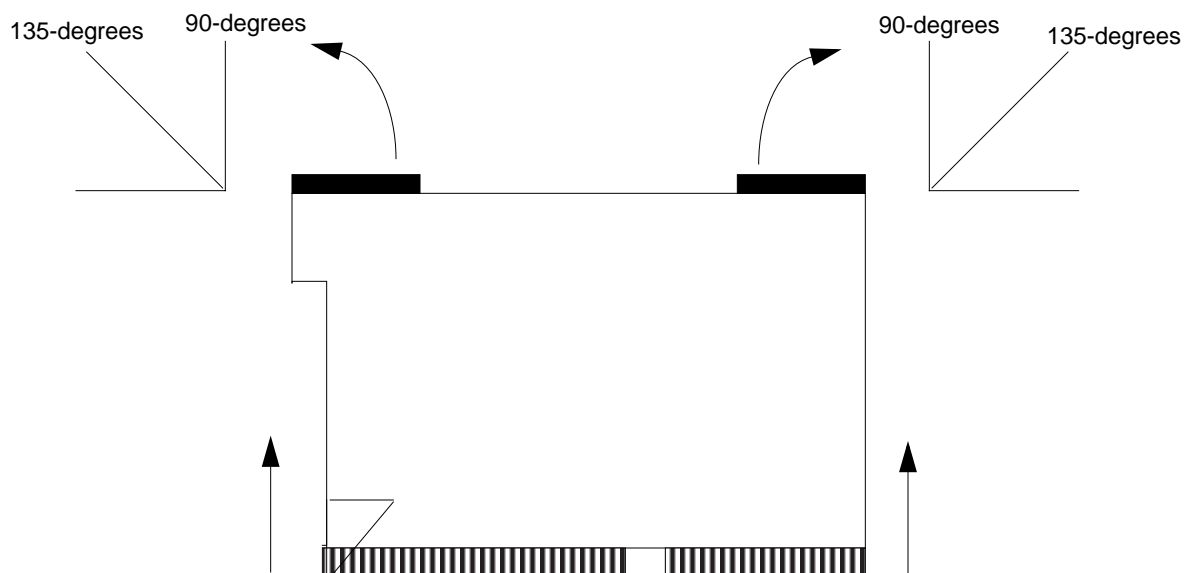

Figure 4-2 Removing the UltraSPARC Module
2. With the thumbs of both hands, simultaneously lift the two levers on the module upwards and to the side (about 135-degrees) (Figure 4-2).